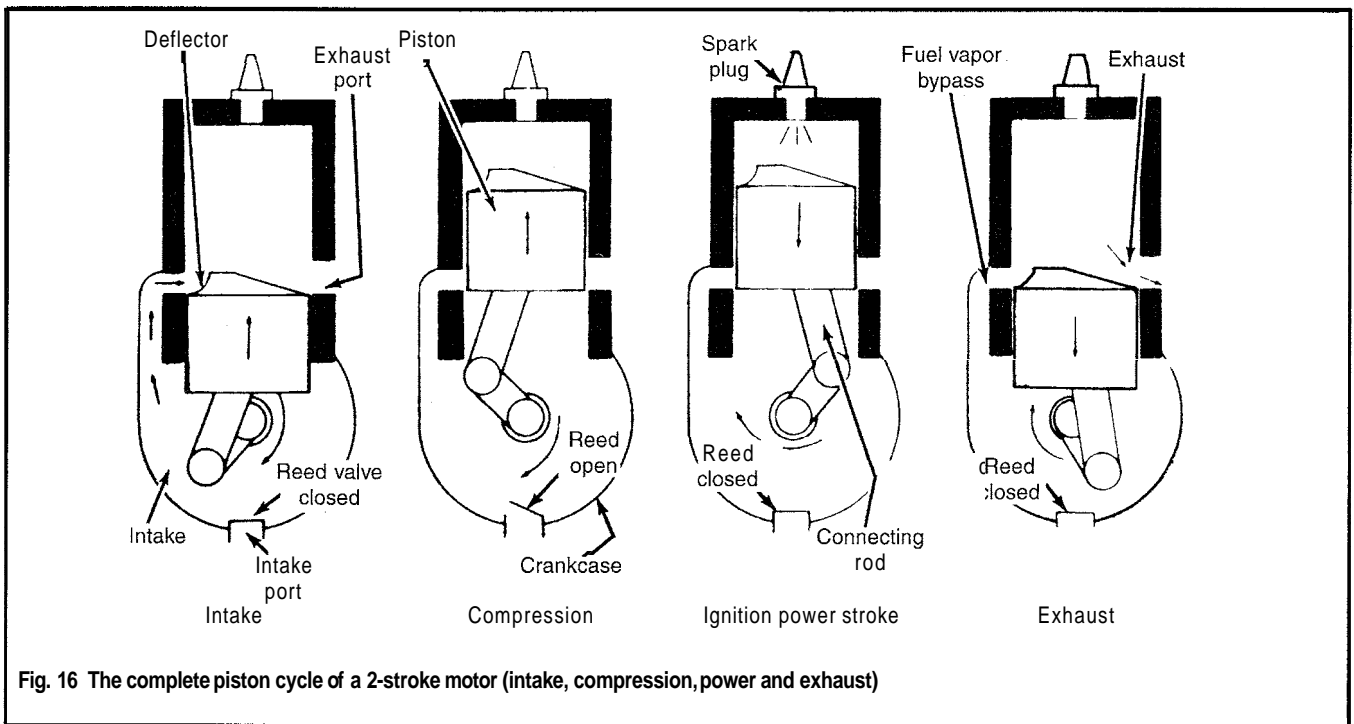

Fig. 16 The complete piston cycle of a 2-stroke motor (intake, compression, power and exhaust)
See Figures 16 and 17
◆ See Figures 16 and 17
- ◆ See Figure 16